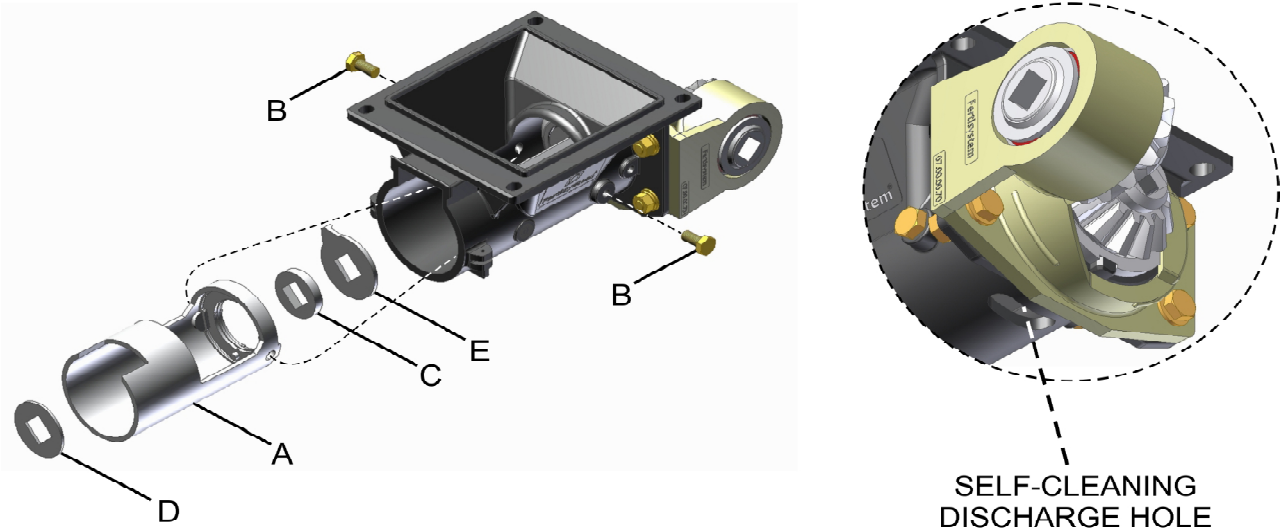

fig. 32
At the end of the harvest season, check the coating (A) (fig. 32). if there is shown excessive wear, replace it by loosening and removing the screws (B). Check for wear on the felt (C), washer (D) and washer for cleaning (E). The excessive wear is checked when the fertilizer goes in great quantity by self-cleaning discharge hole, located on the underside of the body.